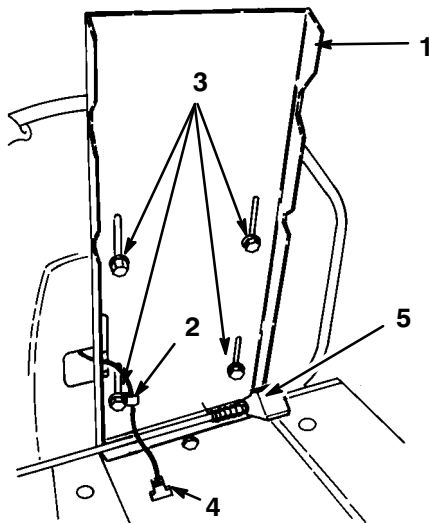

Figure 2
1. Position the seat onto the seat base, inserting the seat switch cable through the slot and aligning the mounting holes (Fig. 2).
2. Slide the clamp over the seat switch wire (Fig. 2).
3. Using the left front mounting slot in the seat base, loosely secure the clamp and seat to the seat base with a screw (5/16 x 3/4 in.) and washer (5/16 in.) (Fig. 2).